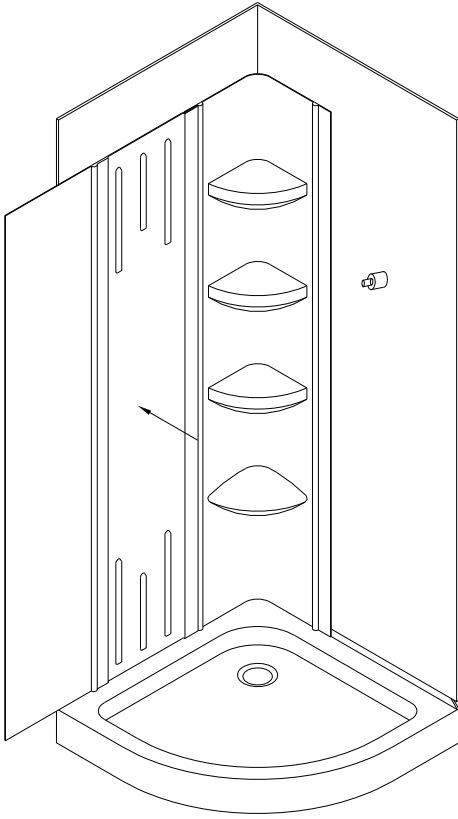

Fig 5
5. Place the side panel in position and apply pressure to the complete surface top to bottom to ensure good overall contact. DO NOT trim. See Fig 5 for details.